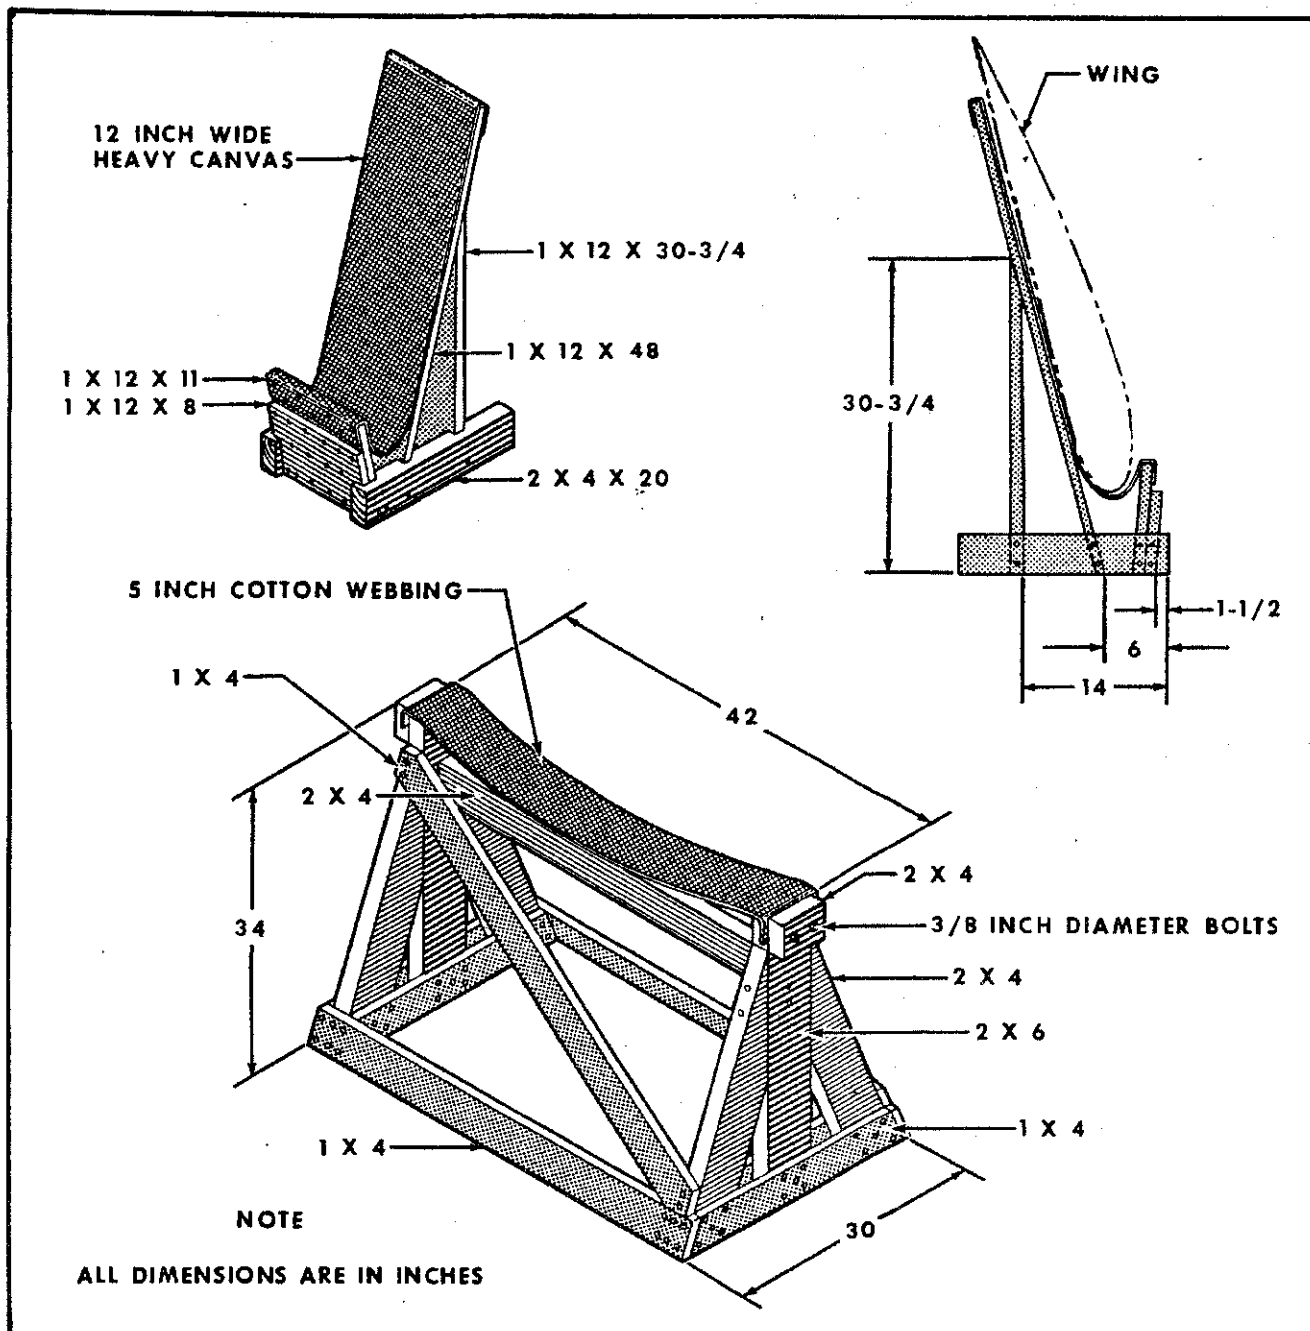

Figure 18-1. Wing and Fuselage Support Stands
**18-4. SUPPORT STANDS.** Padded, reinforced sawhorse or tripod type support stands, sturdy enough to support any assembly placed upon them, must be used to store a removed wing or tailcone. Plans for local fabrication of support stands are contained in figure 18-1. The fuselage assembly, from the tailcone to the firewall, must NOT be supported from the underside, since the skin bulkheads are not designed for this purpose. Adapt support stands to fasten to the wing attach points or landing gear attach points when supporting a fuselage.